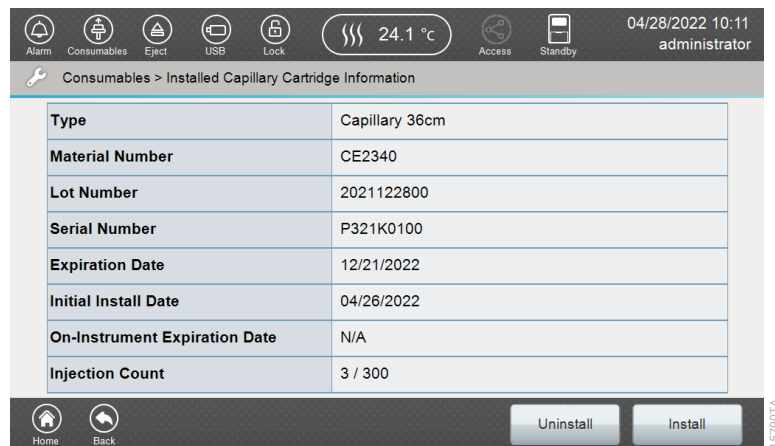

Figure 30. 'Installed Capillary Cartridge Information' screen.
1. Select **Capillary** on the 'Consumables' screen (Figure 11). This will open the 'Installed Capillary Cartridge Information' screen (Figure 30).